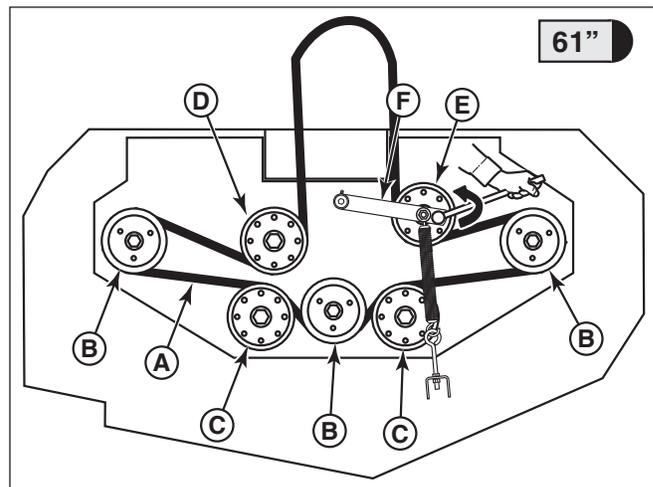

Figure 46. Mower Deck Drive Belt Routing - 61" Models (S/N: 2016953545 & Below)
3. Using a 1/2" breaker bar, place the square end in the square hole located in the end of the idler arm (F, Figure 46). Carefully rotate the breaker bar **counter-clockwise**, which will relieve the tension on the belt exerted from the idler arm.
4. Slide the drive belt (A, Figures 46 & 47) over the edge of the stationary idler pulley (D). Carefully release the tension on the breaker bar.
6. Install the drive belt on the PTO pulley, the spindle pulleys (B), the front stationary pulleys (C), and the adjustable idler pulley (E).
7. Carefully rotate the breaker bar **counter-clockwise** and install the belt on the rear stationary idler pulley (D). Carefully release the tension on the breaker bar.